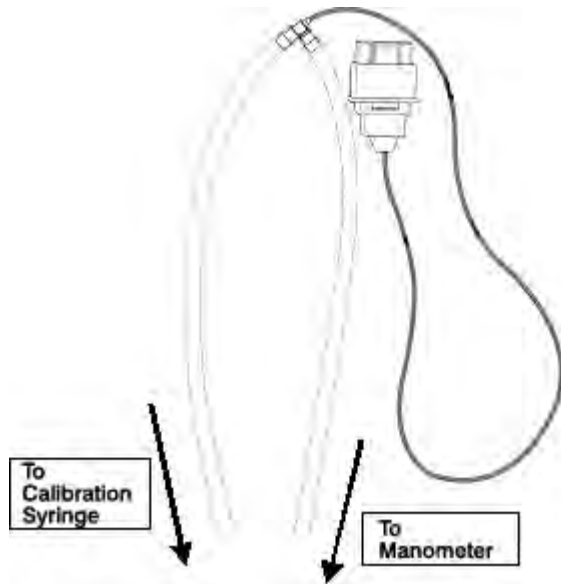

Figure 7.16
2. With NOTHING attached to the Aux port on the front panel of the vent, press Zero (0) calibration icon on the touch screen.
3. Attach the calibration assembly to the Aux port on the front of the unit as in Figure 7.16.